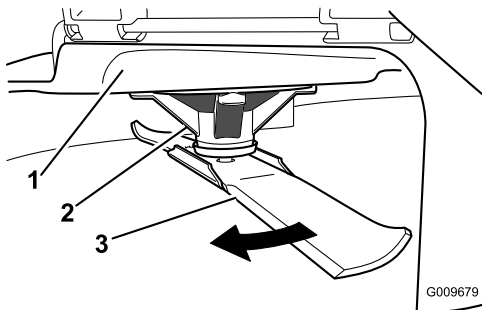

Figure 42
2. While wearing thickly padded gloves, or other adequate hand protection, slowly rotate the blade to be measure into a position that allows effective measurement of the distance between the cutting edge and the level surface the machine is on (Figure 42).